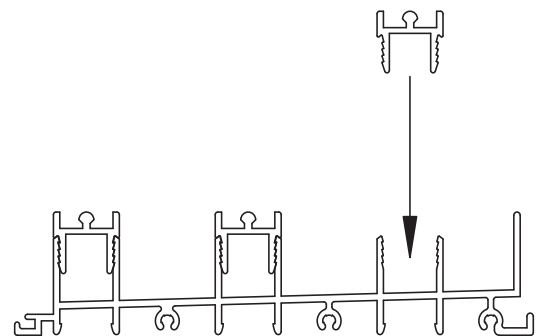

Figure 16
14. After installation screws are sealed, install the sill inserts. There is one insert for each track. (See Figure 16)